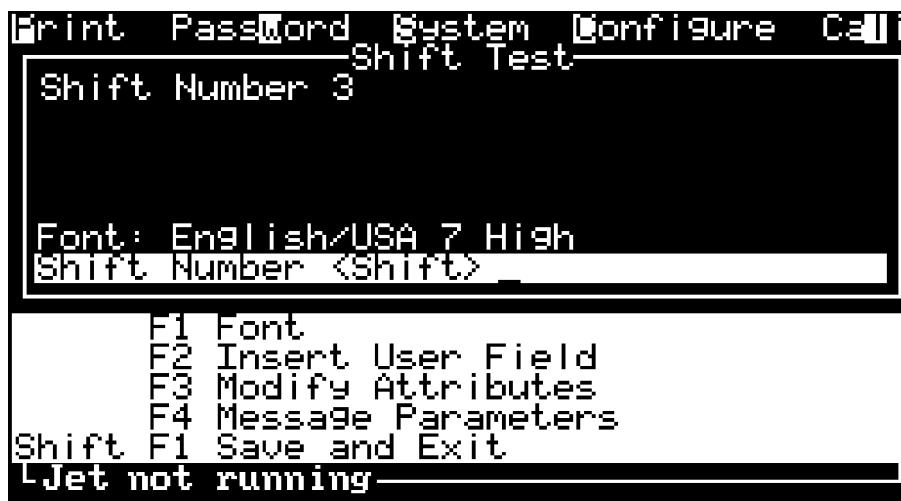

Fig 9.10 Shift message
- 44.3 Using the Shift criteria used above, the insertion of a shift at approximately 0330 would provide a shift number of 3 as shown at Fig 9.10.